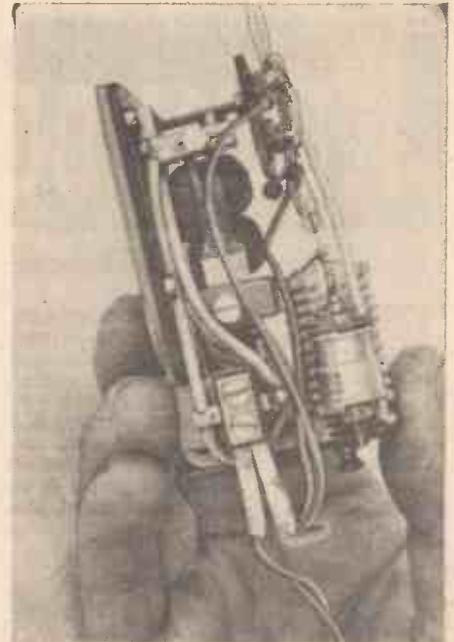

Fig. 6.—A photograph giving an approximate idea of size.
**T**HIS receiver is for short range control only, and can be fitted in quite small boats or other models, as it is only approximately 1½ in. × 1½ in. × 3 in., including the relay. A good approximation of the size can be gained from Fig. 6. The current needed is under 2mA, at 4½V., and this can be obtained from three small dry cells in series.